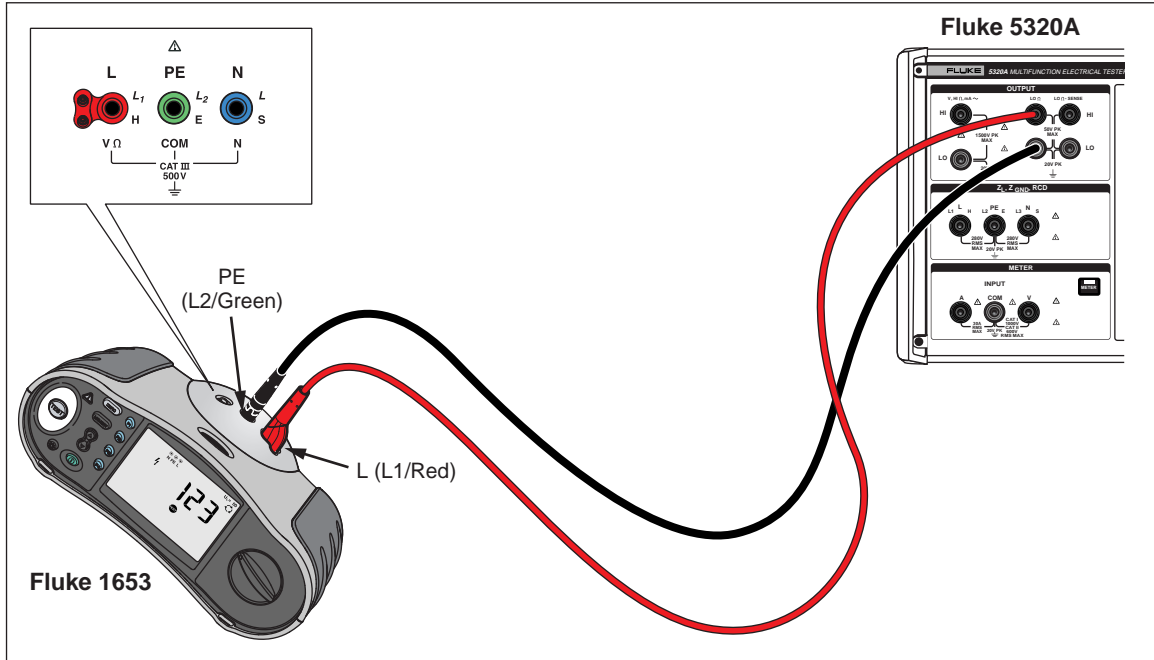

Figure 7-1. Resistance Calibration UUT Connections
1. Using Figure 7-1 for a reference, connect the UUT to the Calibrator's **LO Ω HI** and **LO** terminals.